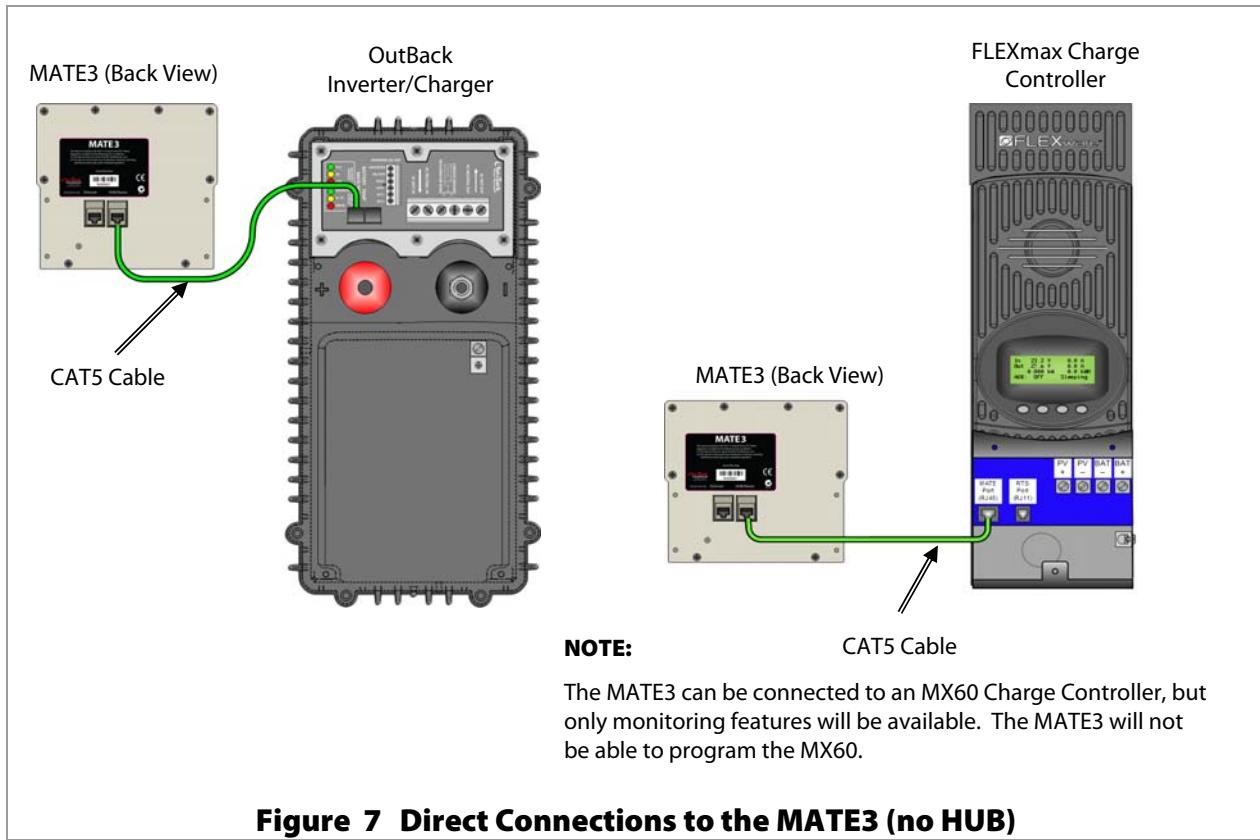

Figure 7 Direct Connections to the MATE3 (no HUB)
- MATE3 directly to an inverter or charge controller. See Figure 7.